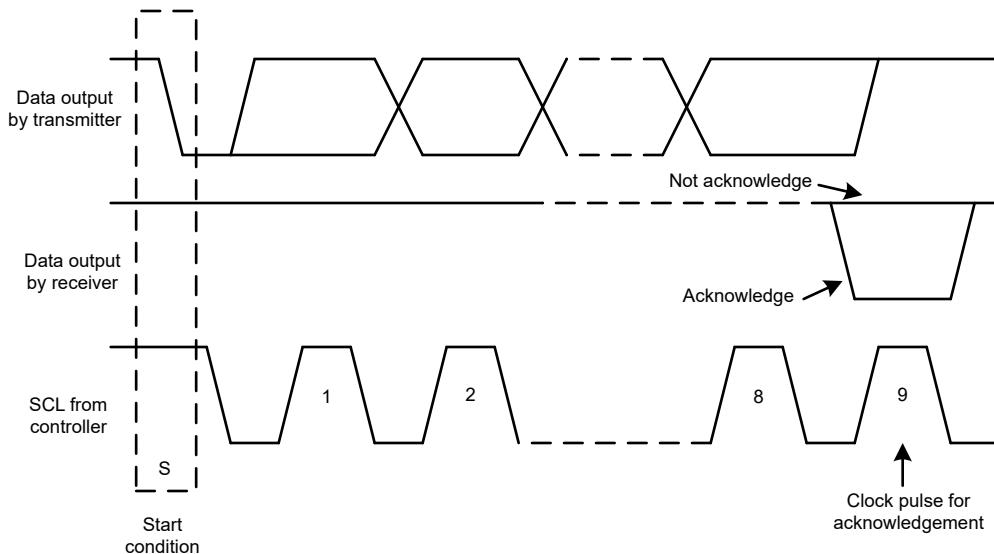
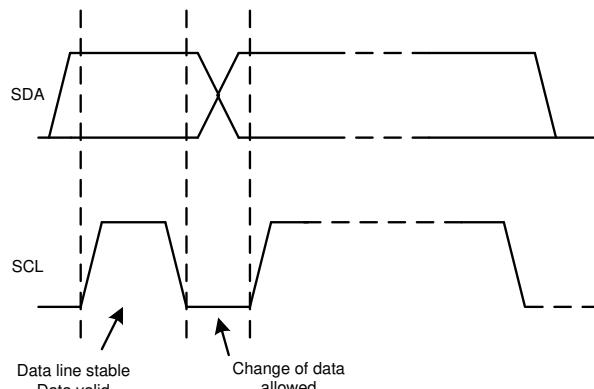

Figure 7-18. Acknowledge and Not Acknowledge on the I²C Bus
Figure 7-20. Bit Transfer on the I²C Bus
Other than specific timing signals, the I²C interface works with serial bytes. At the end of each byte, a ninth clock cycle generates and detects an acknowledge signal. An acknowledge is when the SDA line is pulled low during the high period of the ninth clock cycle. Figure 7-18 depicts a not-acknowledge, when the SDA line is left high during the high period of the ninth clock cycle.
2. The controller then generates the SCL pulses, and transmits the 7-bit address and the read/write direction bit (R/W) on the SDA line. During all transmissions, the controller makes sure that data are valid. Figure 7-20 shows that a valid data condition requires the SDA line to be stable during the entire high period of the clock pulse. All devices recognize the address sent by the controller and compare the address to the respective internal fixed address. Only the target device with a matching address generates an acknowledge by pulling the SDA line low during the entire high period of the 9th SCL cycle (see also Figure 7-18). When the controller detects this acknowledge, the communication link with a target has been established.